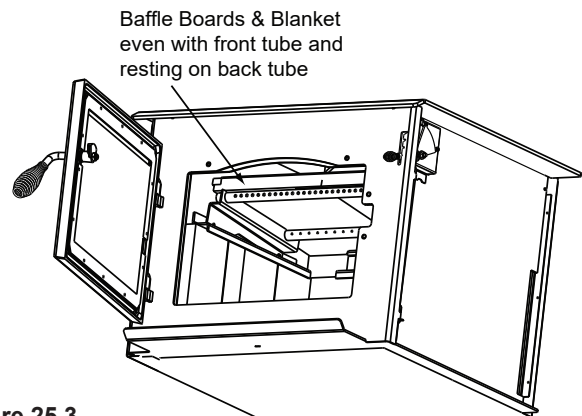

Figure 25.3
2. Remove the baffle protection channel by rotating it down from the front tube (**Figure 25.3**).
6. Slide the baffle pieces one piece at a time underneath the blanket. Be sure the baffle boards are even with the front manifold tube and is resting on all tubes (**Figure 25.3 and 25.4**).